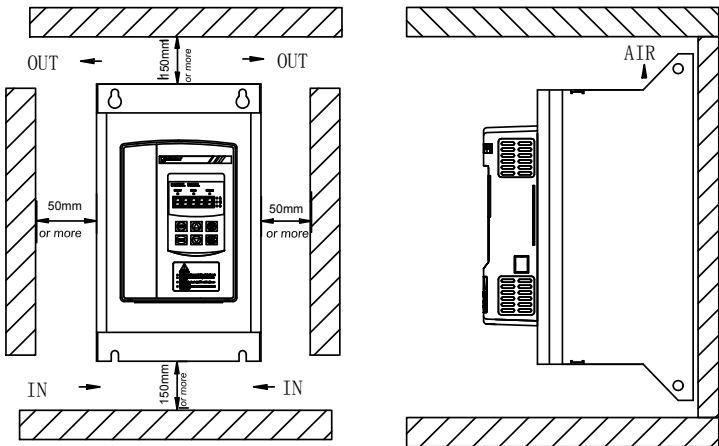
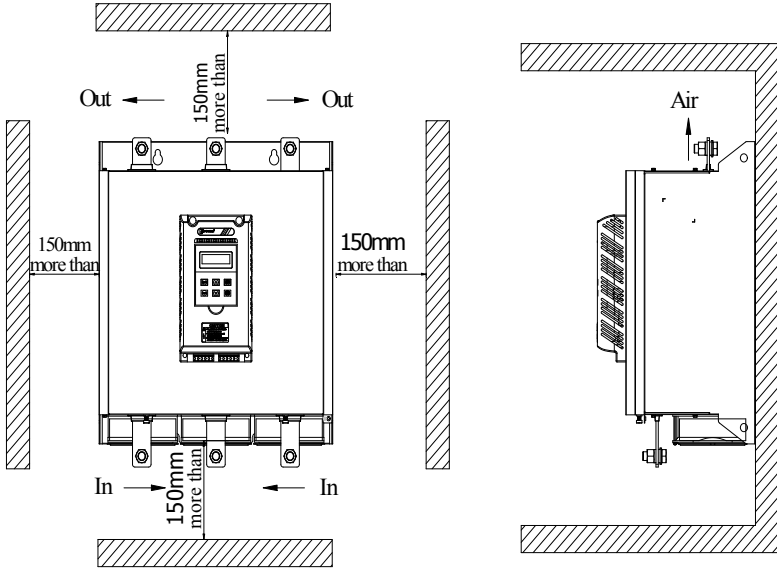
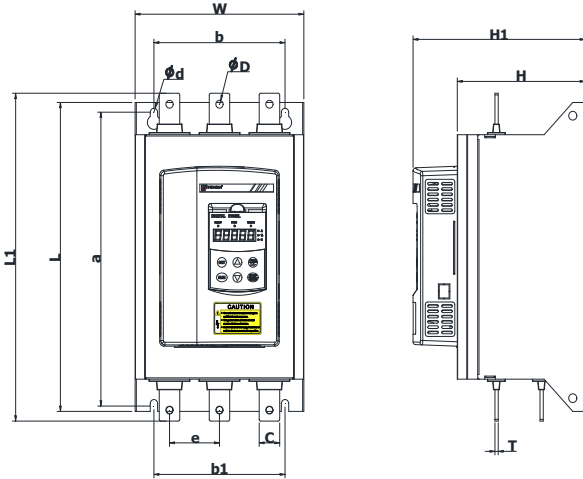

Figure 3-1: Installation requirement for PR5300G3 11-115kW
Figure 3-2: Installation requirement for PR5300G3 132-500kW
Figure 3-3: Shape and mounting dimension for PR5300G3 11-115kW(Frame No:F01-F02)
■The installation direction and distance: In order to ensure that the soft starter in use with good ventilation and heat dissipation conditions, the soft starter should be installed vertically, and around the equipment left enough space for heat dissipation, as shown in Figure 3.1, Figure 3.2, Figure 3.3, Figure 3.4the graph to allow the minimum distance.